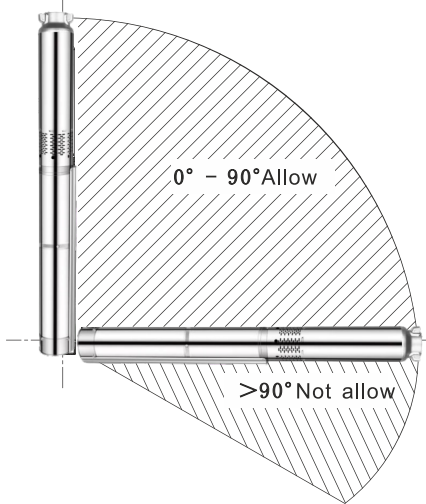

fig.4-5
- 4.2 Positional requirementsThe pump is suitable for vertical as well as horizontal installation, however, the pump shaft must never fall below the horizontal plane. See fig. 4-5.